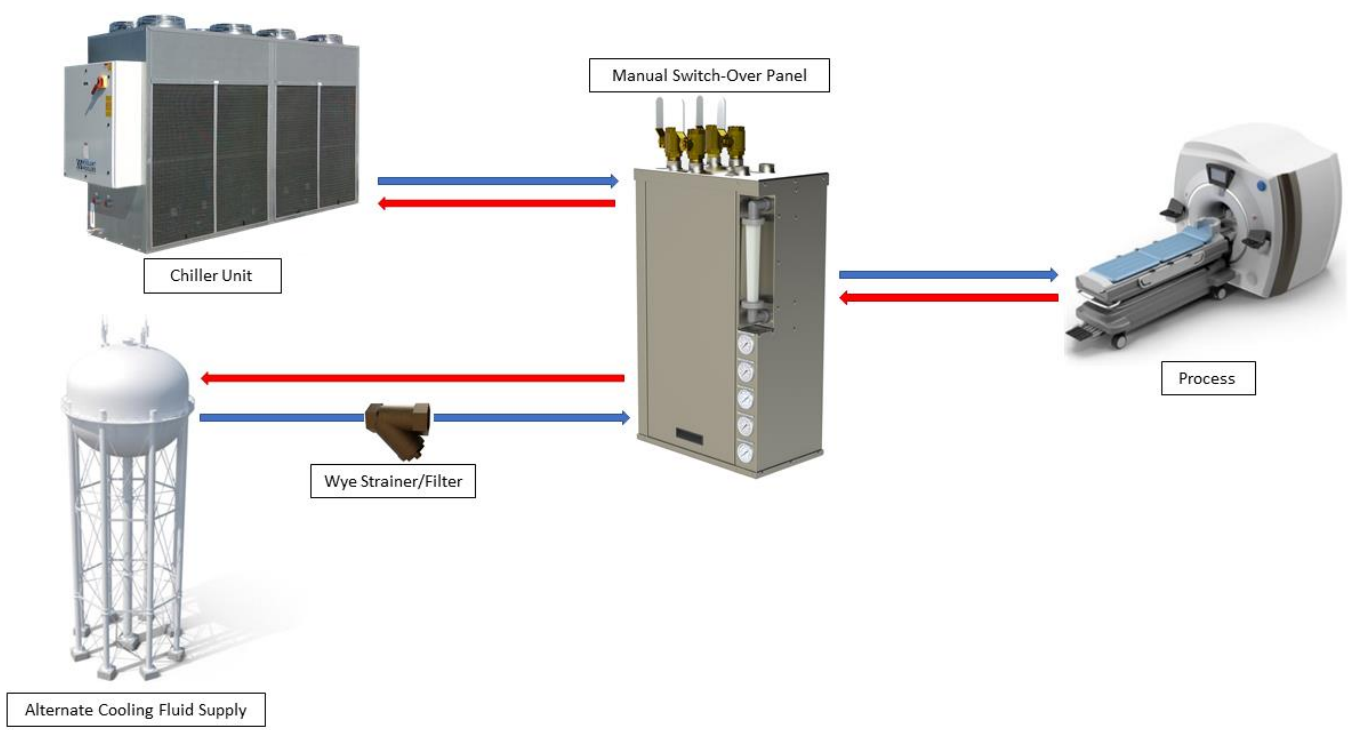

Figure 2: System Diagram
3. Install the proper size piping between the Manual Switch-Over Panel and the Chiller System, Alternate Cooling Fluid Supply and the main process. Install a 50 micron strainer or filter between the Alternate Cooling Fluid Supply and the Manual Switch-Over Panel. (Refer to Figure 2 for system diagram).